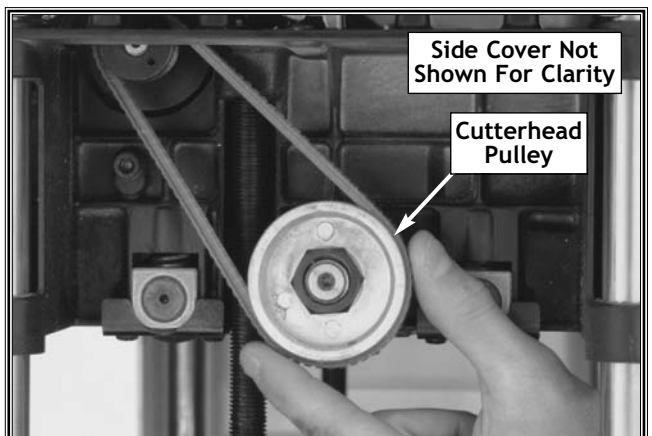

Figure 17. Rotate the cutterhead pulley until locked.
4. Rotate the cutterhead pulley from the underside of the planer until the lock lever secures the cutterhead into position. See Figure 17.